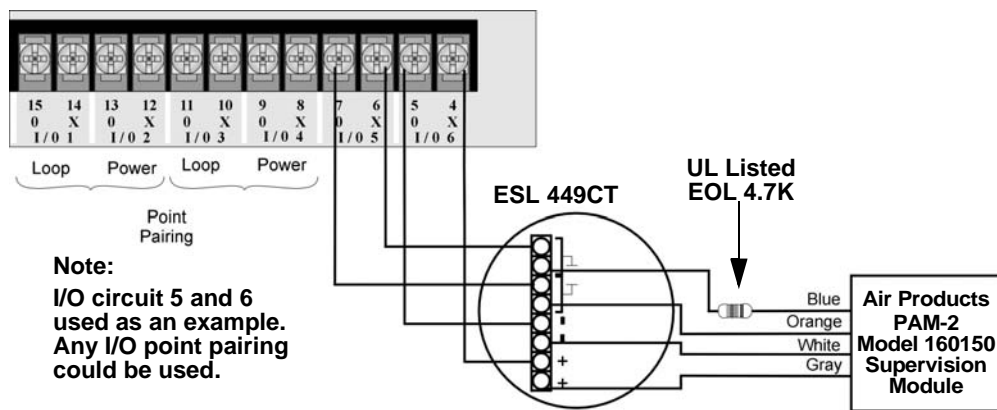

Figure 3-14 Class B 4-Wire Smoke Detector Connections
Figure 3-14 illustrates how to install a 4-wire Class B smoke detector.
2. Each Class B loop input is paired with a unique power source as shown in Figure 3-14.
Note: In programming any point that uses multiple I/O circuits are always referred to as the lowest I/O circuit number used. For example, Figure 3-14 uses both I/O circuit 5 and 6, so in programming it would be referred to as point 5.